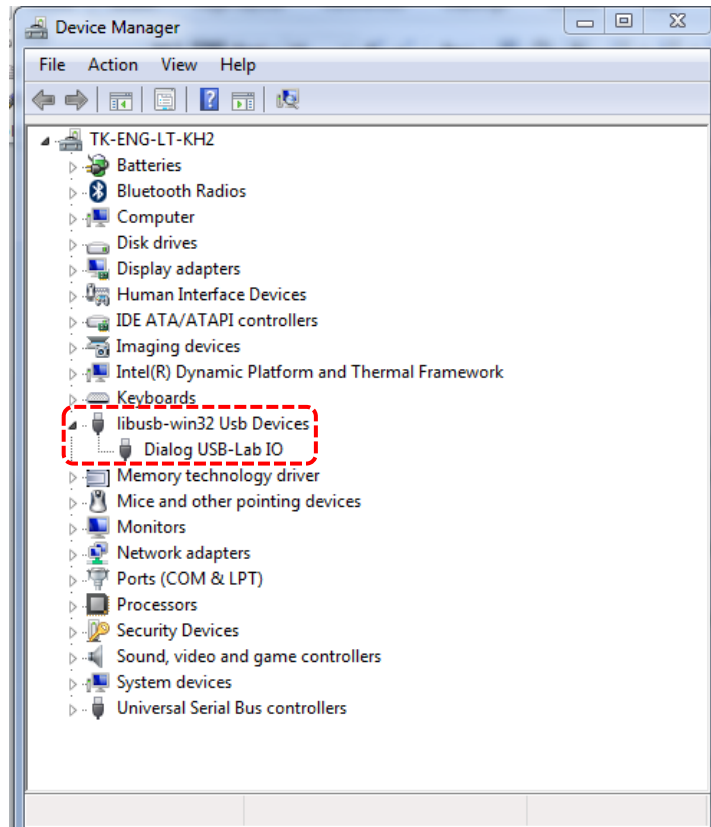

Figure 9: Windows Device Manager
2. Check that the Dialog USB driver has been properly installed using the **Windows Device Manager**, see Figure 9.